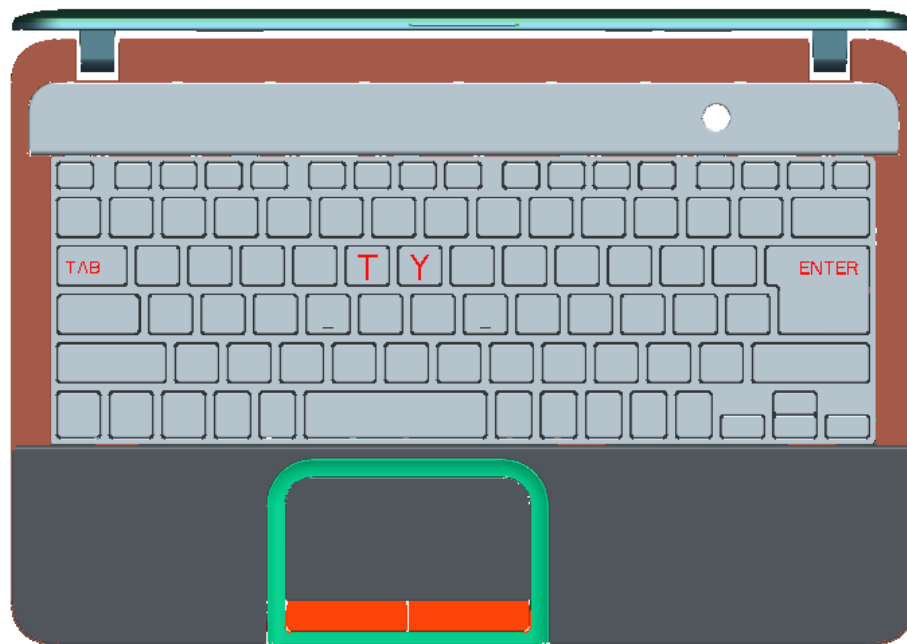

Figure 4-7-8 Install the Keyboard
5. Pressure the snap holder 1 ~ 6 into corresponding clasp point. (See Figure 4-7-8)